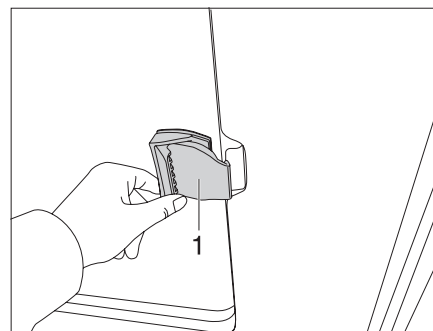

Fig. 27 Sliding window without lock
- ▶ Pull the handle flap (Fig. 27,1) and push or pull the handle forwards at the same time.